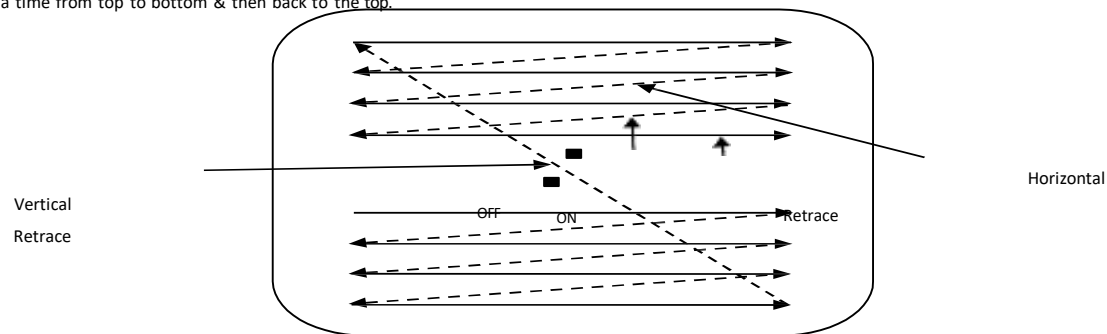

Fig. 1.4: - Raster scan CRT.
- In this method the horizontal and vertical deflection signals are generated to move the beam all over the screen in a pattern shown in fig. 1.4.